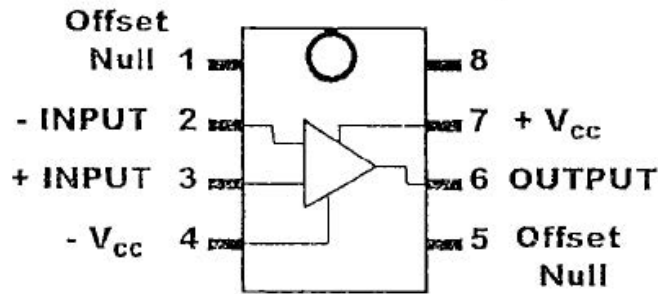
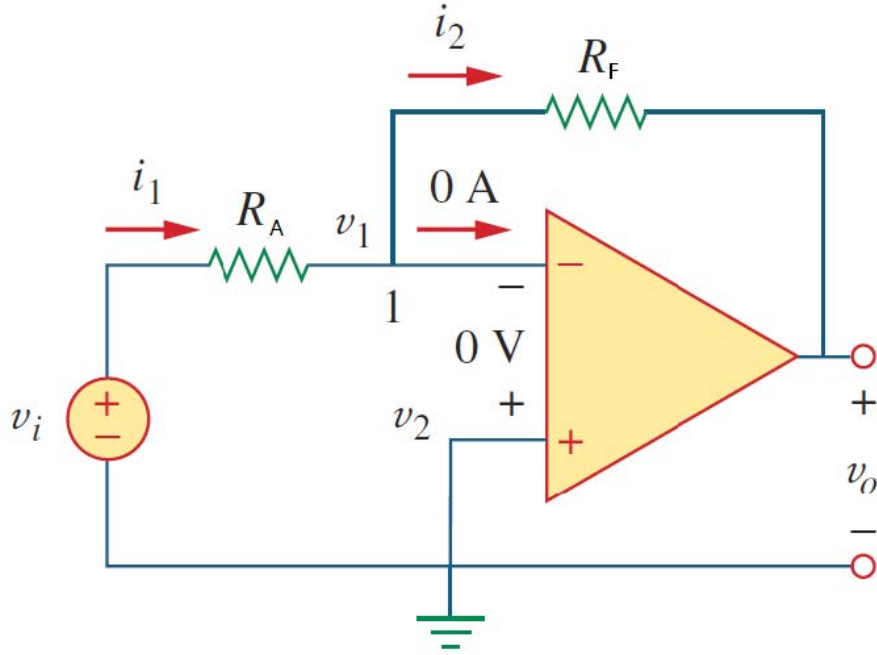

Figure 2. Pin numbers for LM 741 op amp.
Figure 7. Inverting amplifier.
Accordingly, for LM741 op amp chip you see in reality, the pin numbers are shown in Figure 2:
1. Build the circuit according to the figure below referring to Figure 2, $R_F = 100\Omega$, $R_A = 50\Omega$. Use the power supply to provide $+V_{cc} = +5V$ and $-V_{cc} = -5V$ to the op amp. Use the COM port on the power supply as the ground in the schematic.
1. Build the circuit according to Figure 7 referring to Figure 2, $R_F = 100\Omega$, $R_A = 50\Omega$. Use the power supply to provide $+V_{cc} = +5V$ and $-V_{cc} = -5V$ to the op amp. Use the COM port on the power supply as the ground in the schematic.
2. Use the function generator to generate a sine wave, and use it as the input voltage (v_i in Figure 7). Set the initial amplitude of the sine wave to 0.1Vpp. Use the oscilloscope to measure the output voltage (v_o in Figure 7).